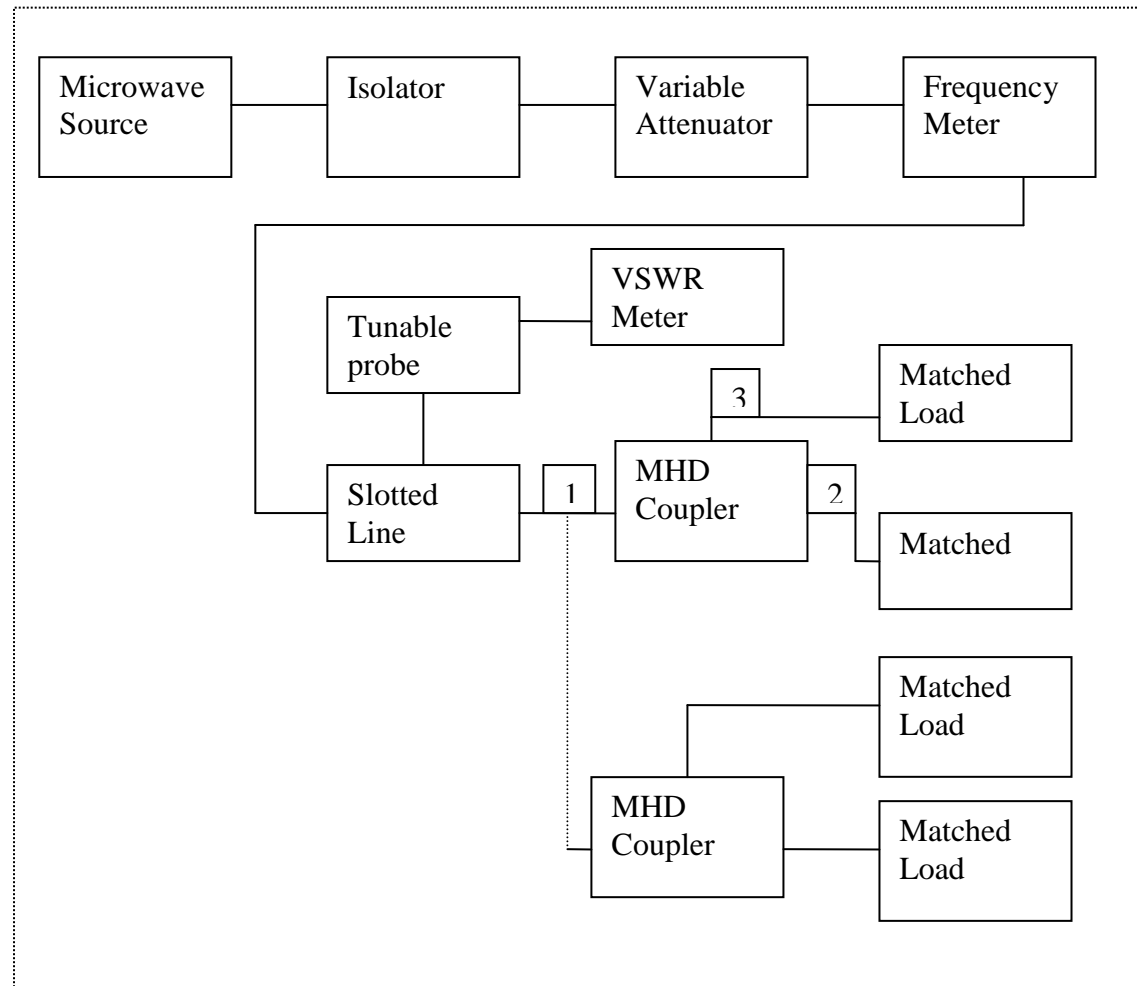

Fig.1: – Set Up for the measurements of VSWR of MHD Coupler
1. Set up the components and equipments as shown in fig. 1.